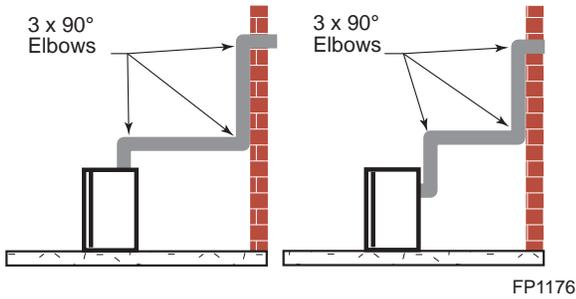
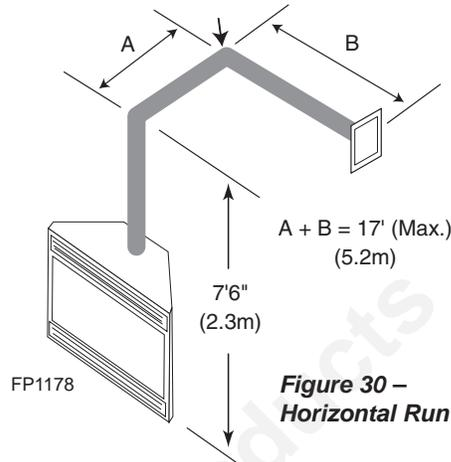

Figure 28 –
Figure 30 –
- The maximum number of 90° elbows per side wall installation is three (3). Figure 28
- If a 90° elbow is used in the horizontal vent run (level height maintained) the horizontal vent length is reduced by 36" (914 mm). Figures 30 & 31. This does not apply if the 90° elbows are used to increase or redirect a vertical rise. Figure 28
In Figures 30 & 31, dimension A plus B must not be greater than 17' (5.2 m)